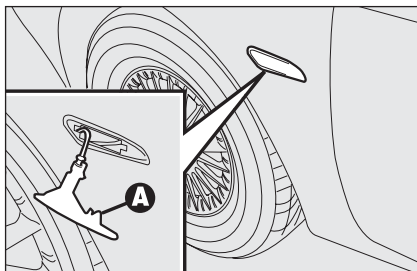

fig. 27
- push the lens by hand in opposite running direction in order to press the catch **A-fig. 27**. Release the front part and remove the unit;
- fit the bulb holder **B** into the lens **C** then position the unit, the catch shall click into place **A-fig. 27**.